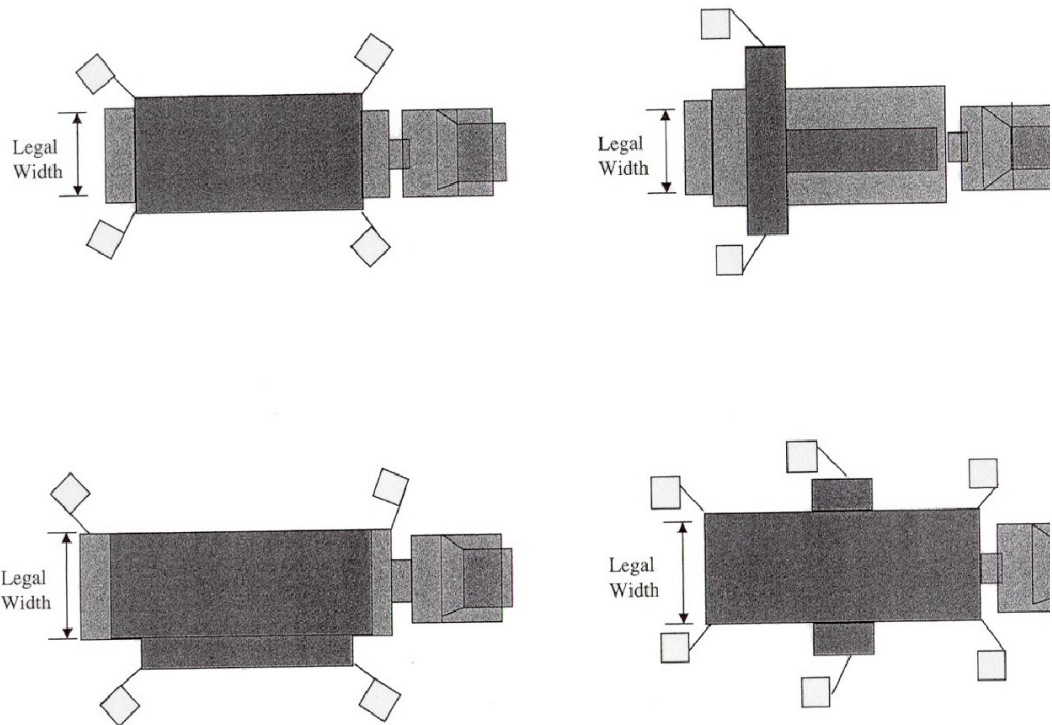

Figure 4.1: Warning Flags on Overwidth Loads
- 4.6.2.2 Warning flags are required on vehicles and loads, which exceed legal width. These vehicles and loads are required to bear flags at the extremities of the vehicle or load as shown in Figure 4.1.